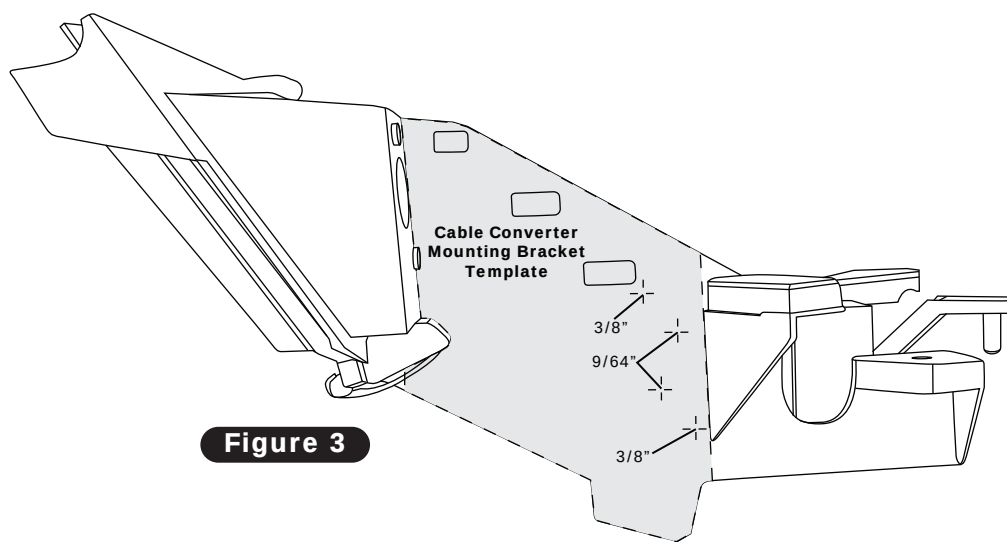

Figure 3
2. Align the template on the control panel, and drill (2) 3/8" holes and (2) 9/64" holes in the control panel as shown in Figure 3, below.